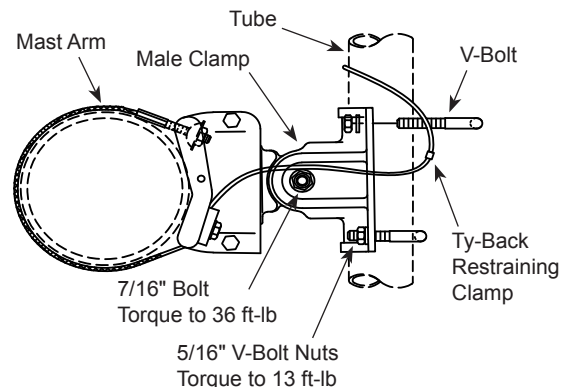

Figure 5
16. Mount the tube assembly (with its attachments installed) into the male clamp of clamp kit. Insert the v-bolts as shown and attach with lock washers and nuts. (Figure 5). Position the signal to the desired height and direction. Torque nuts on (2) 5/16" v-bolts to 13 ft-lb. **DO NOT OVERTIGHTEN.**
21. Install the AB-0506 cable Ty-Back Restraining Clamp per separate Instruction Bulletin No. 2037 to provide a neater cable appearance and a positive cable restraint. (Figure 5)